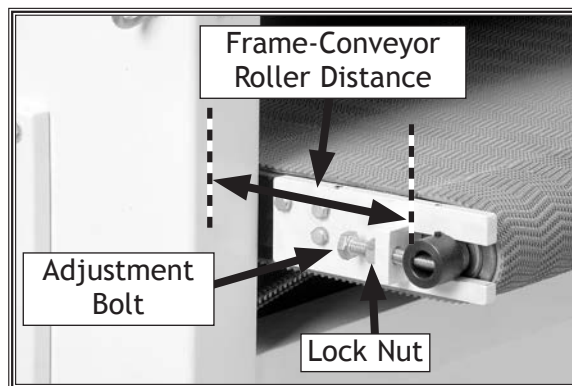

Figure 47. One side of conveyor tensioning & tracking controls (guard removed for clarity).
1. Using a 19mm wrench, loosen the lock nut (see **Figure 47**) on both sides of the conveyor.